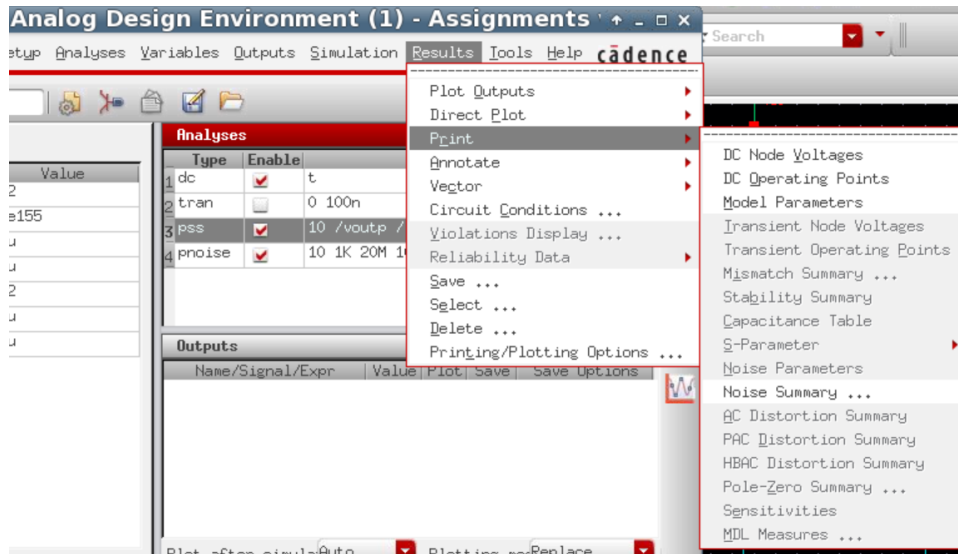
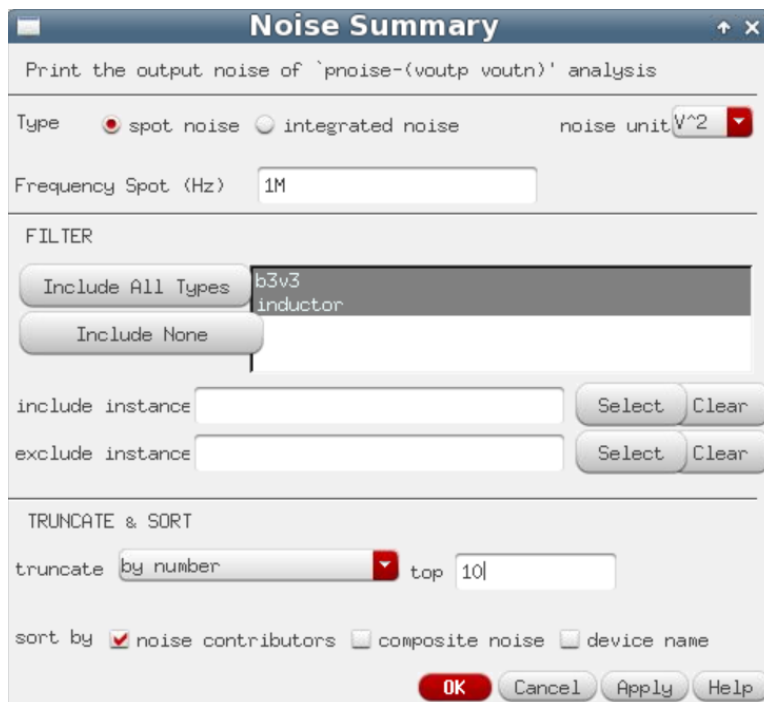

Fig. 13: Procedure to print the noise summary
Fig. 14: Setting up the noise summary window
- 5) To print the noise summary for 1MHz frequency spot, in the ADE go to results→print→noise summary, as shown in figure 13. In the pop-up window (figure 14), select “spot noise” for type, and enter 1M for frequency spot. Select your desired noise unit (V^2 or V) and click on “Include all types” under “FILTER”. For “truncate”, select “by number” and enter 10, to see the noise summary for top 5 contributors. For “sort by”, select “noise contributors” and click apply. Results will